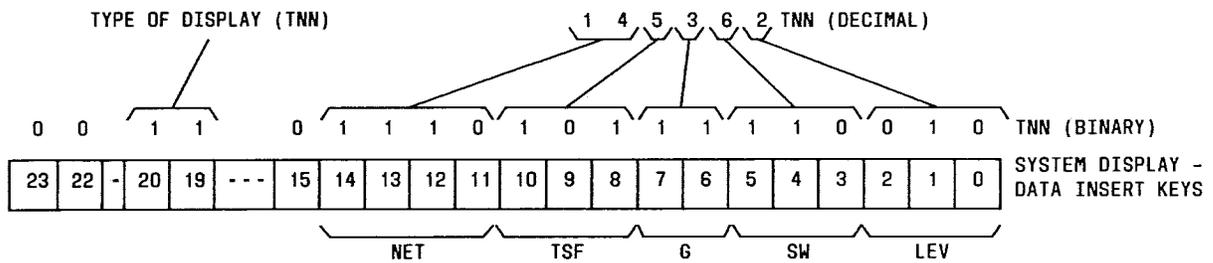

Fig. 30 — Example of Decimal TNN Coded Into Binary TNN
2. At MCC SYSTEM DISPLAY panel, code decimal TNN into 15-bit binary TNN (Fig. 30)
3. At MCC SYSTEM DISPLAY panel, operate or release DATA INSERT keys 0 through 23 to input binary TNN (Fig. 30)